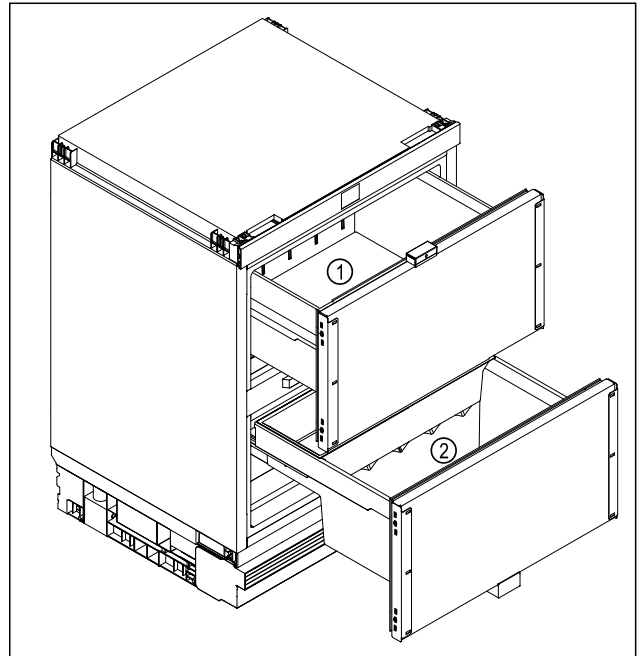

Fig. 7 Example illustration
- Top pull-out cart Fig. 7 (1): Store perishable food, such as pre-cooked meals, fish, fresh meat and lunch meat, packaged fruit and vegetables.
- Bottom pull-out cart Fig. 7 (2): Store cold-sensitive food such as potatoes, onions, or tropical foods. Store food or beverages that should not be consumed too cold.